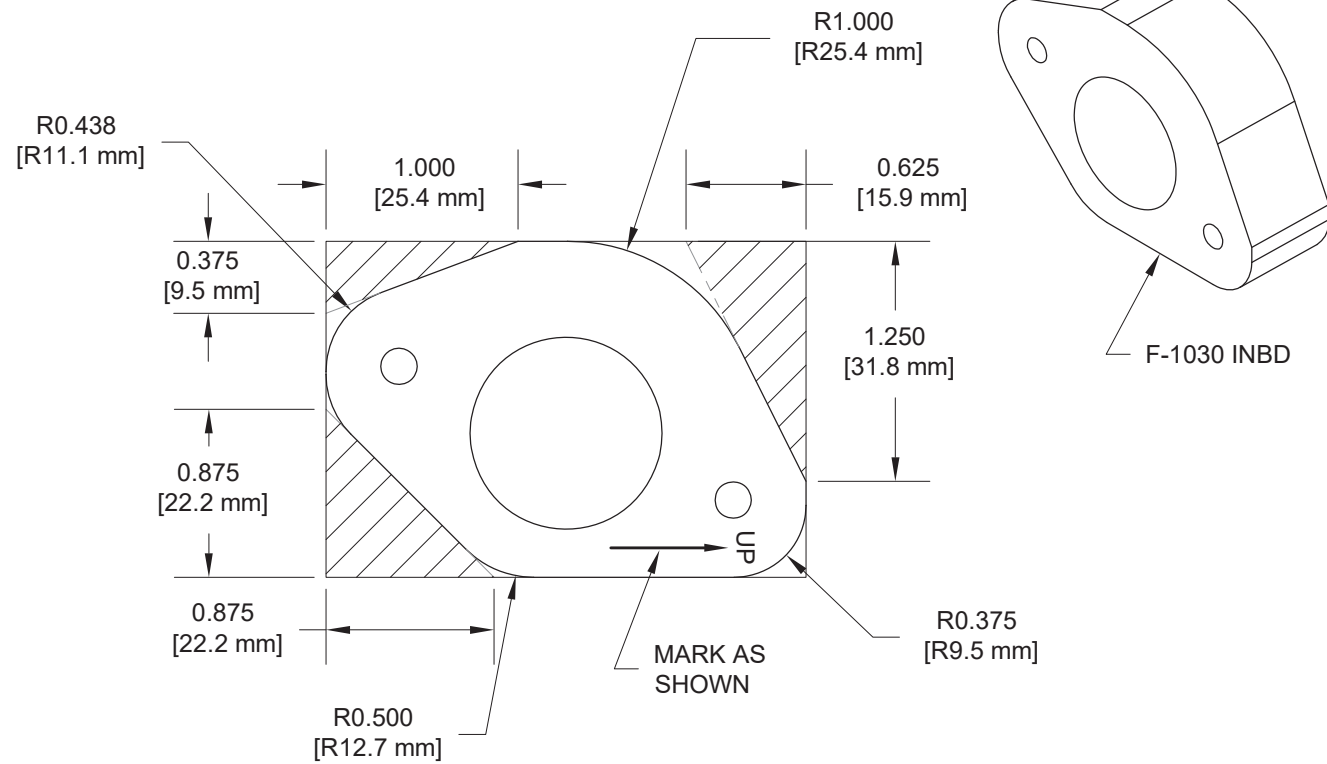

FIGURE 2: TRIM INBOARD UHMW BUSHINGS
Step 2: Trim two F-1030 UHMW Bushings to fabricate the two F-1030 Inboard Bushings. See Figure 2.